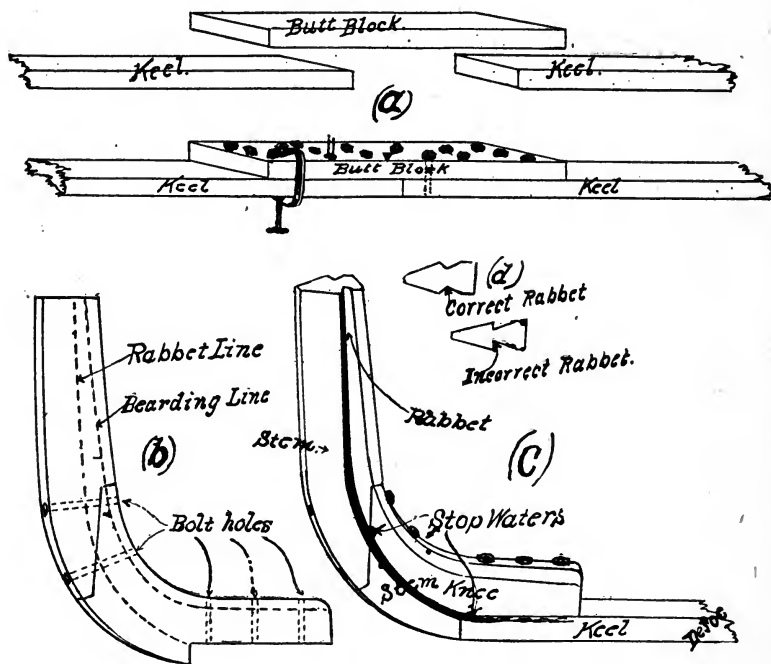

FIG. 2.
**Keel**—The first part to construct is the keel. Using patterns as directed, cut the keel to shape, and if made of two pieces (as in the larger boats), fasten together with a butt splice (Fig. 2 a). The keel is now finished.
**Stem**—First saw out stem and stem-knee from the patterns, and bolt them together as shown in Fig. 2 (b). Mark the rabbet line on both sides, and with a chisel cut the groove, called the rabbet, as shown in Fig. 2 (c). The ends of the plank are to be fitted into the rabbet, and hence it should be as deep as the plank is thick.
Cut the rabbet with plenty of bevel as shown in Fig. 2 (d), so that the plank will slip in easy. The rabbet line and bearding line are shown on the stem pattern. In compromise stern boats the stern-post is put together and rabbeted exactly as the stem.